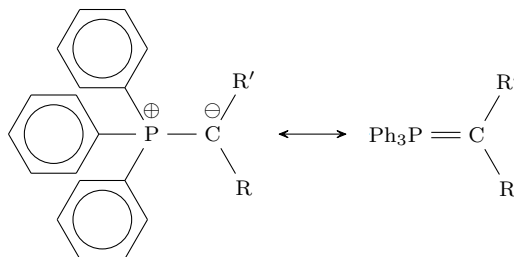

Figure 2.2: Phosphorous ylide.
- The reactivity of phosphorous ylides is dominated by the left resonance structure in Figure 2.2.